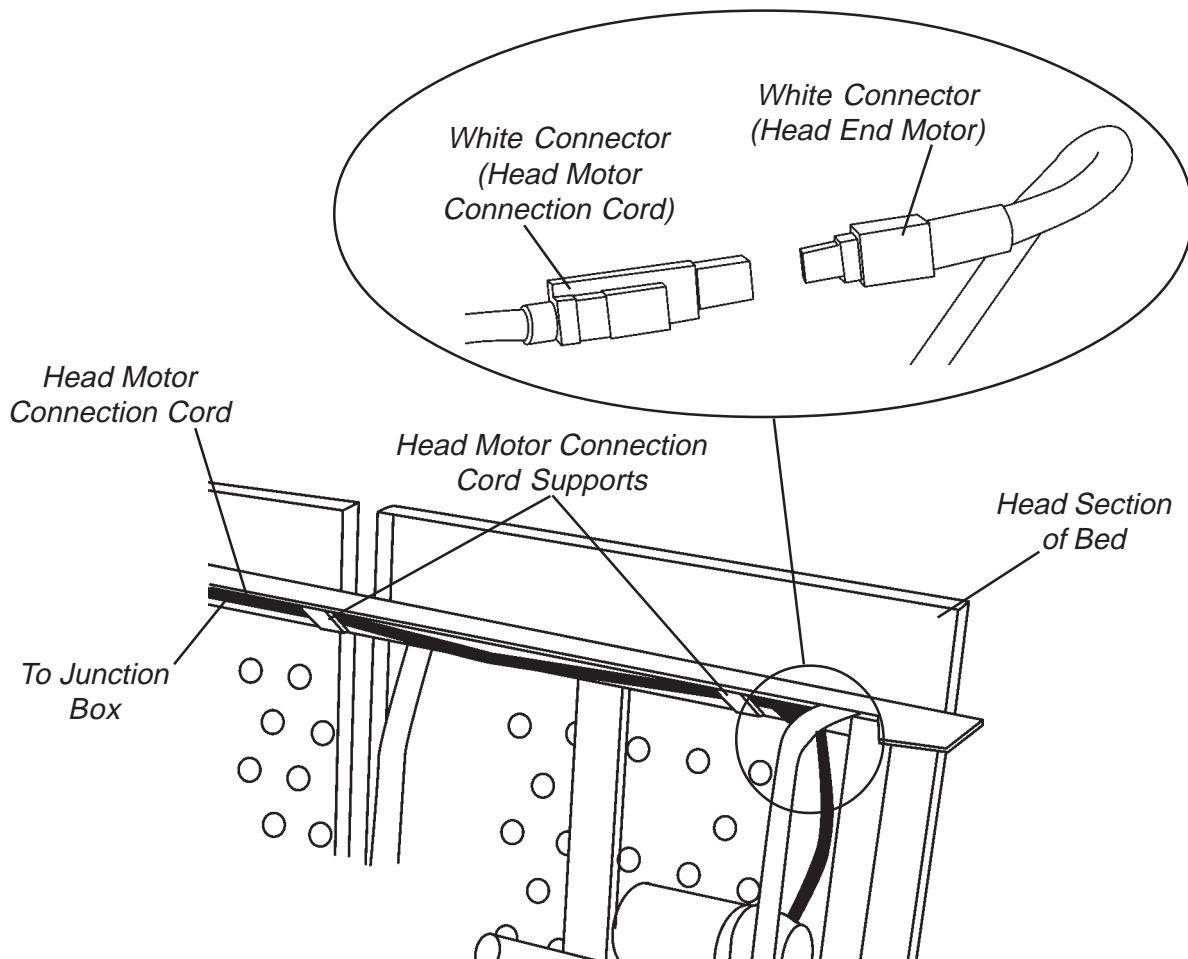

FIGURE 10 - CONNECTING THE HEAD END MOTOR TO THE JUNCTION BOX (BARIATRIC BED ONLY)
**CONNECTING THE HEAD END MOTOR TO THE JUNCTION BOX (FIGURE 10)**